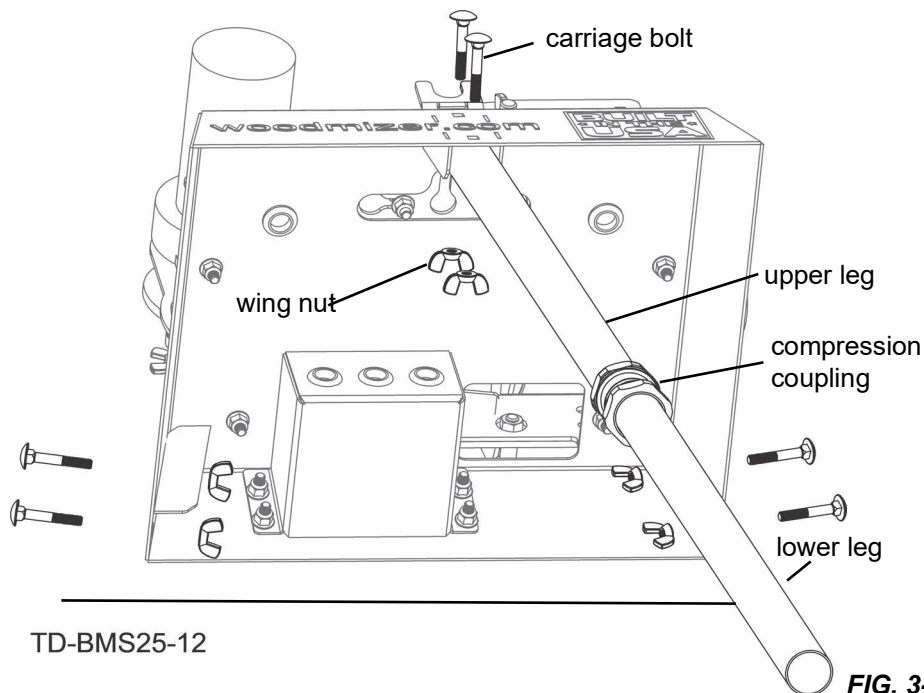

FIG. 3-2
2. Fasten the upper leg to the base of the sharpener using two carriage bolts and wing nuts. **See Fig. 3-2.**